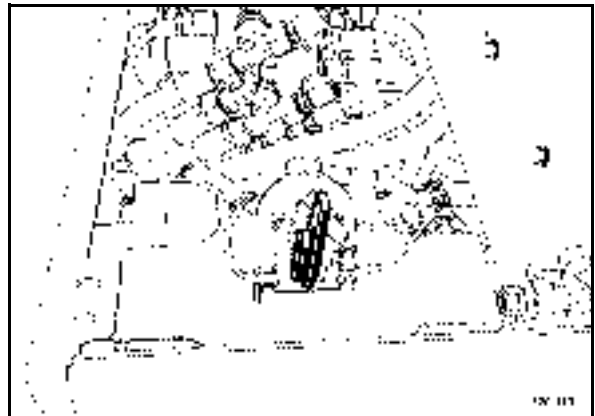

Fig. 120
- Clean the outside of the battery (Fig. 120).